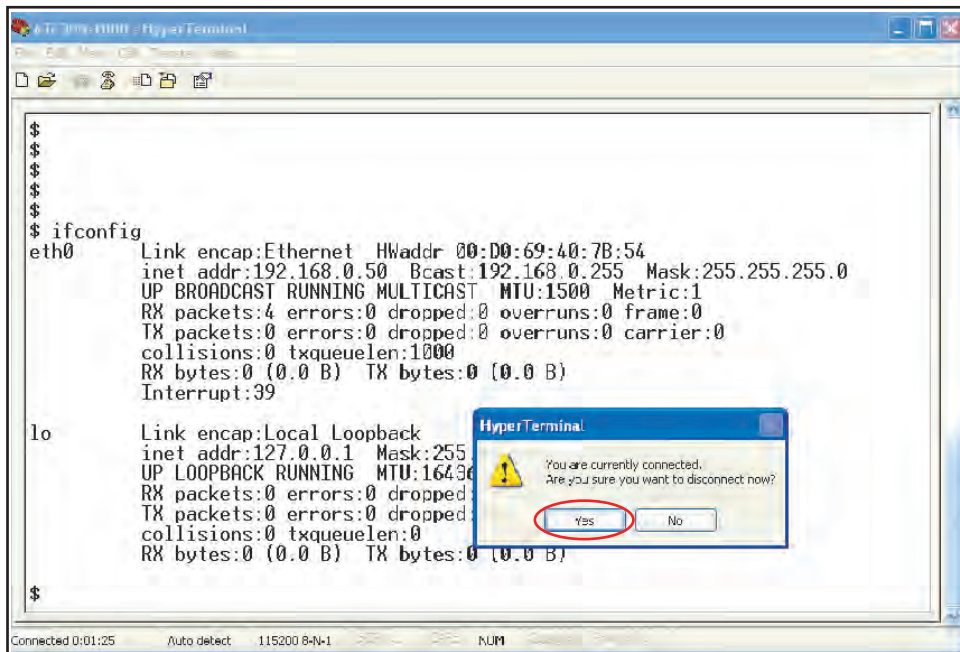

Figure 5-9. Ending The Connection.
- Once you have noted your Ethernet address, close the window to end the HyperTerminal connection. A **HyperTerminal** window will open. Select **Yes** to disconnect from your ATC300-1000/2000 (Figure 5-9).